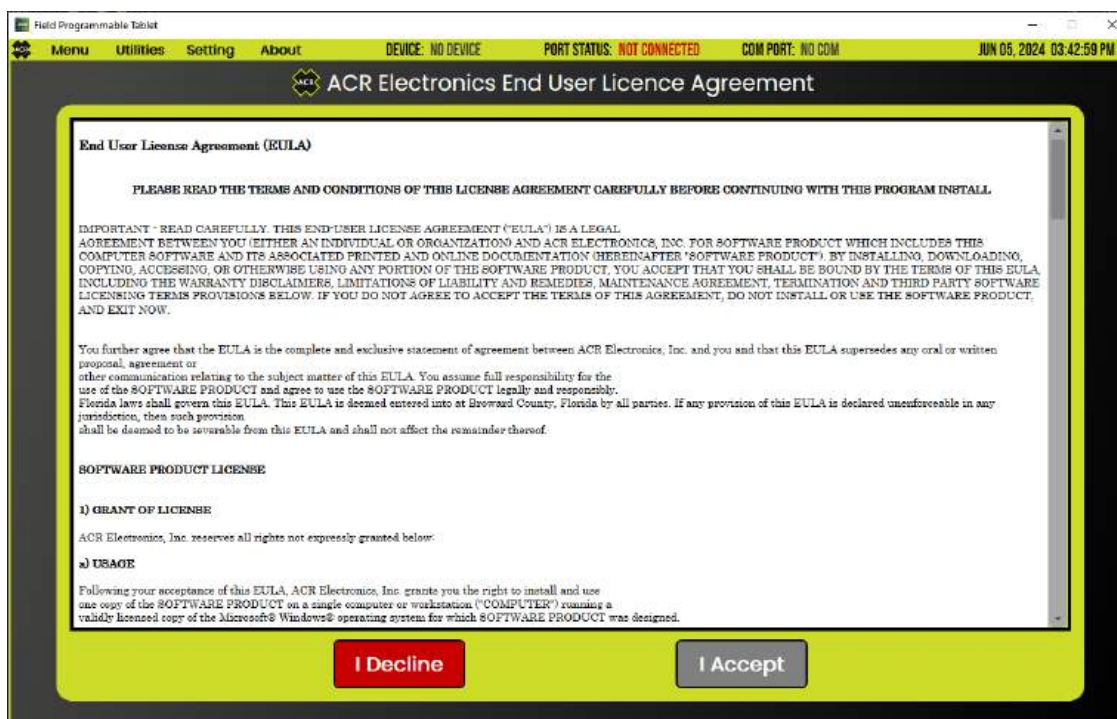

Figure 4 - FPT EULA
6. Upon the first launch of the FPT application, an End-User License Agreement (EULA) appears (Figure 4).